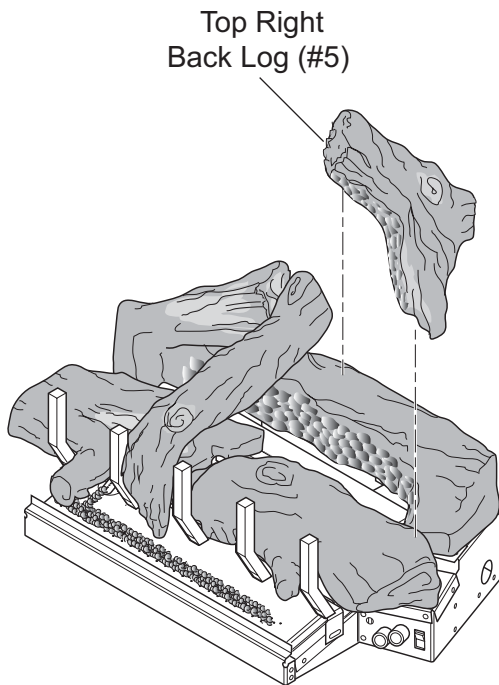

Figure 34 - Installing Right Back Log (#5)
5. Place top right back log (#5) on right bottom log and rear log. See Figure 34.